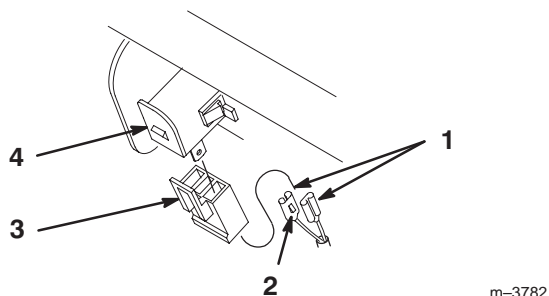

Figure 4
3. Insert terminals into plastic plug until the clips snap into position (Fig. 4). If they do not snap turn around.
4. Push plug onto switch so latches interlock (Fig. 4).